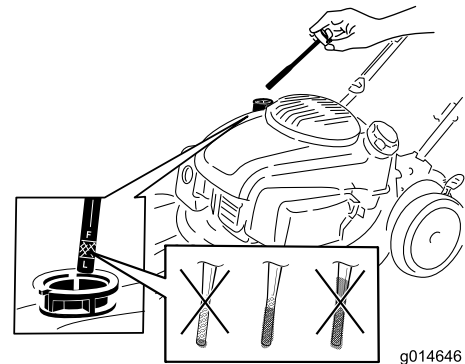

Figure 9
1. Remove the dipstick, wipe it clean, and insert it into the oil-filler neck, but **do not** screw it in (Figure 9).
2. Remove the dipstick and check the oil level (Figure 9). If the oil level is below the Add mark on the dipstick, **slowly** pour oil into the oil-fill tube to raise the oil level to the Full mark on the dipstick. **Do not overfill.** (Max. fill: 0.65 L (22 oz), type: 10W-30 or SAE 30 detergent oil with an API service classification of SJ or higher.)